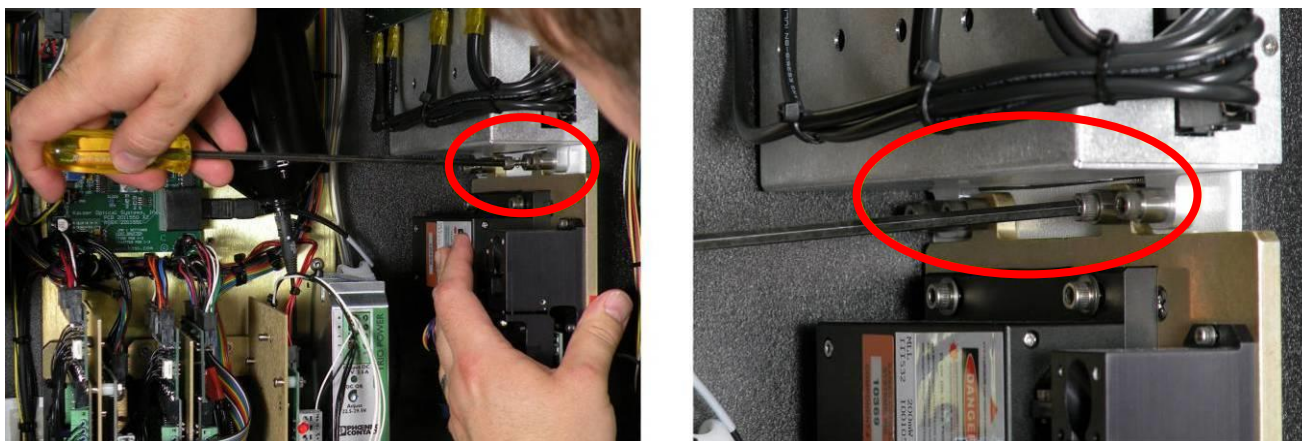

Figure 129. Loosen retaining screws
4. Loosen the 4 retaining screws (Figure 129).